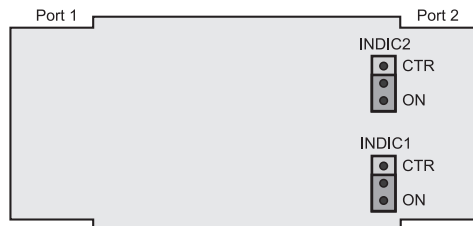

Figure 1. MME/X.21 Jumper Locations
2. Configure MME/X.21 according to the desired mode, referring to Figure 1, and Table 1.